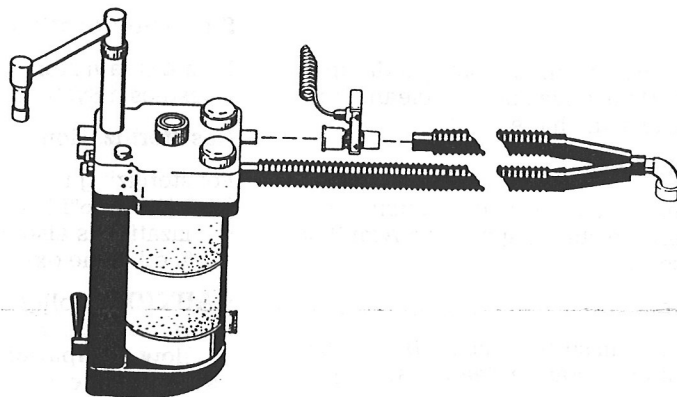

Figure 6-13
4. Remove the volume sensor assembly, with the cartridge attached to the sensing clip, from the breathing system. (See figures 6-13 and 6-14.)